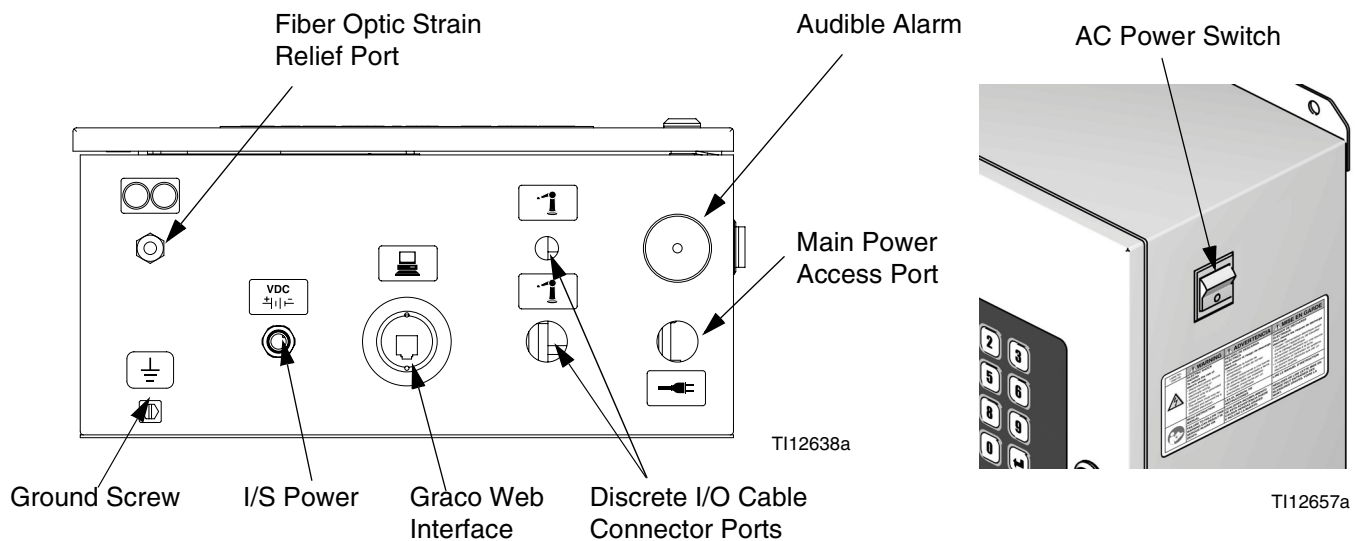

FIG. 13. EasyKey Connections and AC Power Switch
- The input power access port is 22.4 mm (0.88 in.) diameter. It accepts a bulkhead strain relief fitting or conduit. See FIG. 13.
- Provide power to the EasyKey. Install a bulkhead strain relief or conduit bulkhead through the EasyKey port . See FIG. 13.
1. Connect the appropriate Fluid Station Power Cable end to the EasyKey connector . See FIG. 13.
3. The Fiber Optic Cable is shipped from the factory attached to the Fluid Station connector . See FIG. 13.